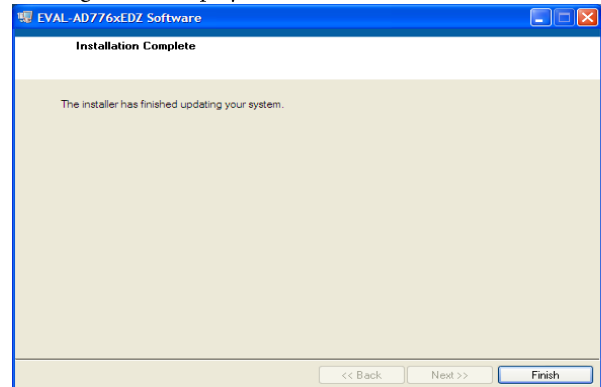

Figure 7. Install Completed
8. On completion of the installation, the window as shown in Figure 7 is displayed.